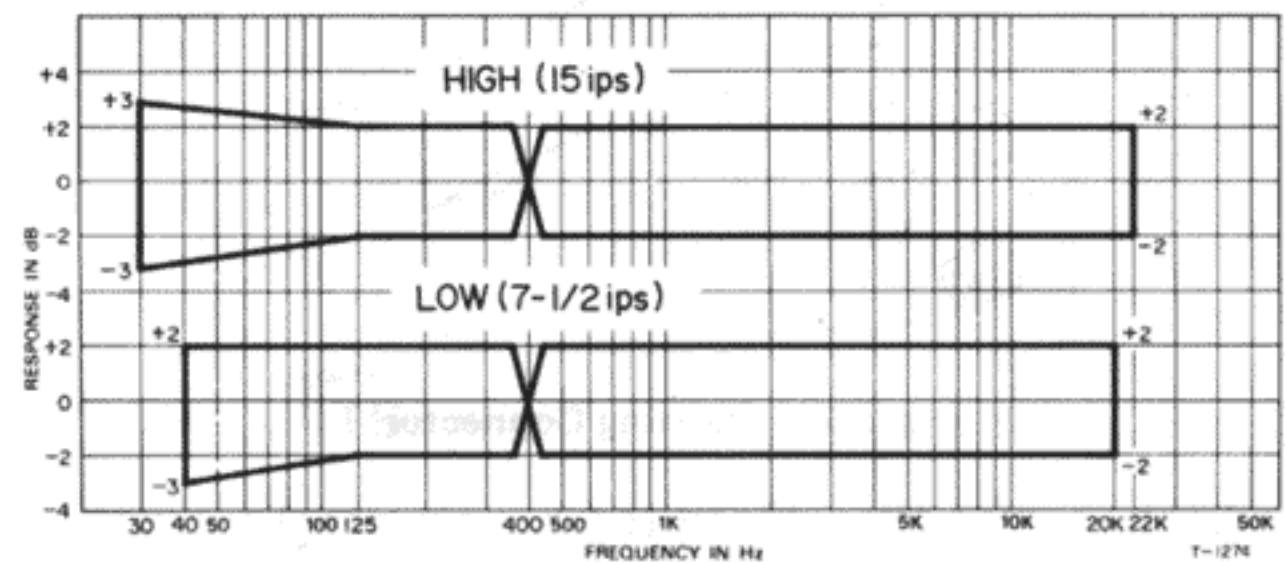

Fig. 8-6 Frequency Response –Playback–
18. Play the Test Tape and compare the readings on the VTVM with the response limits given in Fig. 8-6.